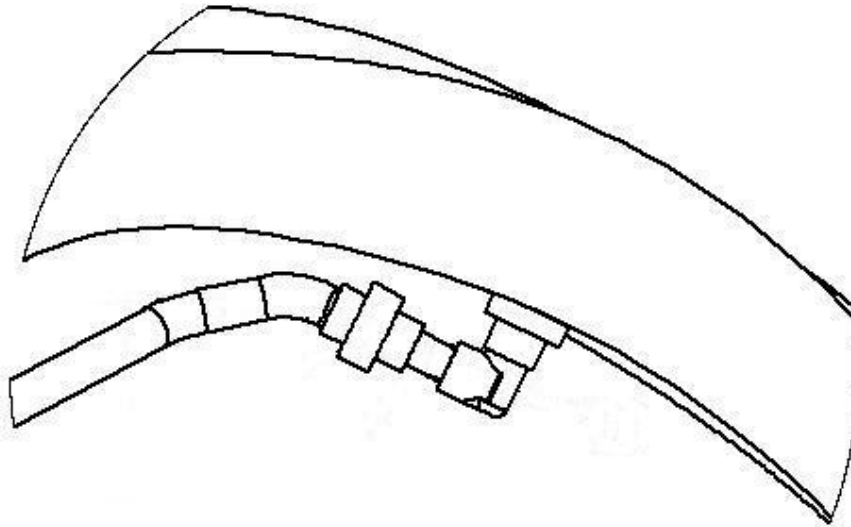

**Figure 10**
- 13) Allow sufficient time for the glue to cure before moving on to the next step. The glued assembly is shown in Figure 10.